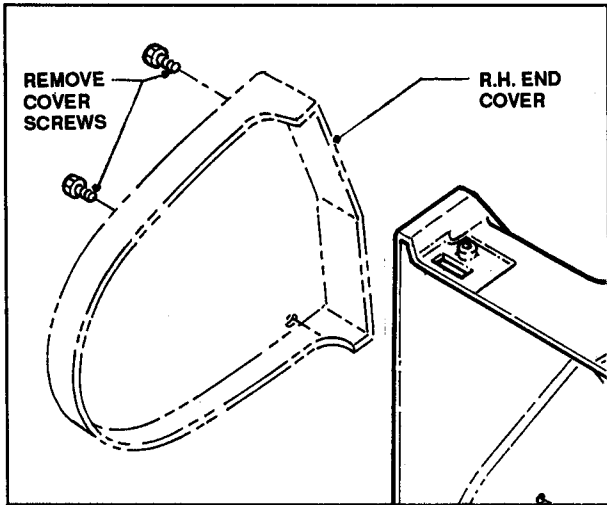

FIGURE 7.16
- (6) Remove two (2) screws at rear of R.H. End Frame Cover and remove Cover. See Figure 7.16